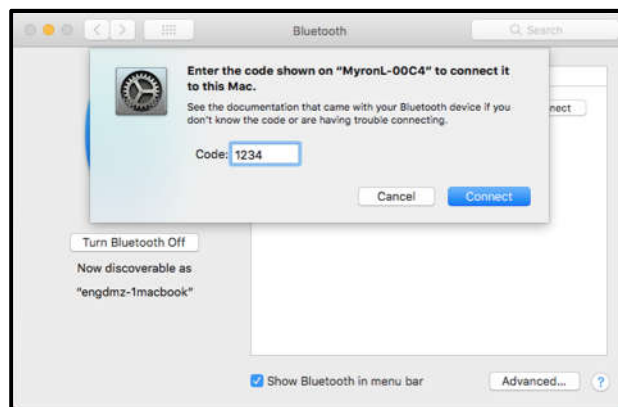

Figure 19
- 6) Type the default passkey **"1234"** into the dialogue box when it is available (this is the default passkey for all Myron L[®] Company Bluetooth equipped instruments) (Figure 19).